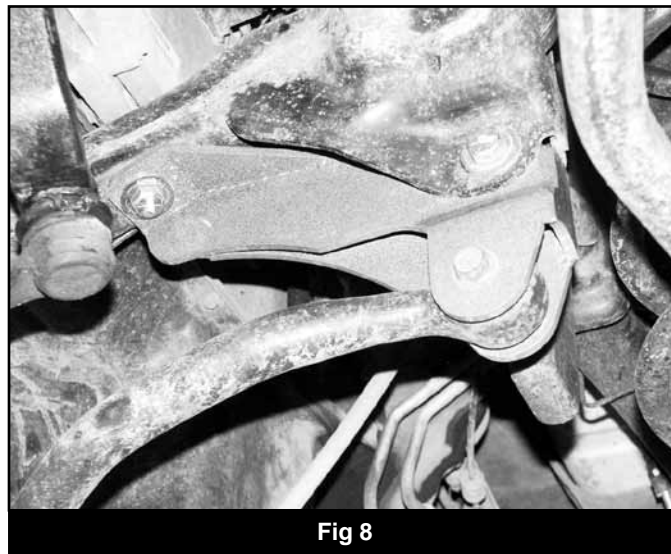

Fig 8
30. Install the new track bar bracket (01285) to the OE frame mount with the  $\frac{5}{8}$ " x 3" bolt, nut and washers (BP 642). Attach the end of the bracket to the frame crossmember with the  $\frac{9}{16}$ " x 3" bolt, nut and washers from bolt pack #642. (Fig. 8) Torque the  $\frac{9}{16}$ " hardware to 100 ft-lbs and  $\frac{5}{8}$ " hardware to 150 ft-lbs.